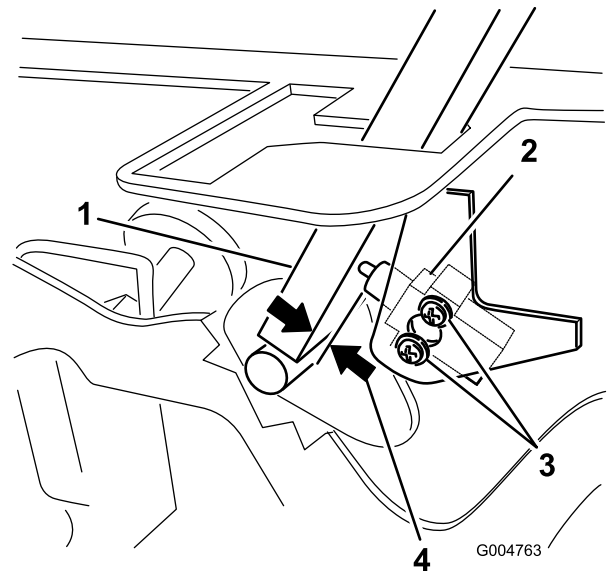

Figure 86
3. Loosen the 2 screws securing the interlock switch (Figure 86).
4. Holding the control lever against the frame, move the switch toward the lever until the distance between the lever and switch body is 0.4 to 1 mm (0.015 to 0.045 inch) as shown in Figure 86.